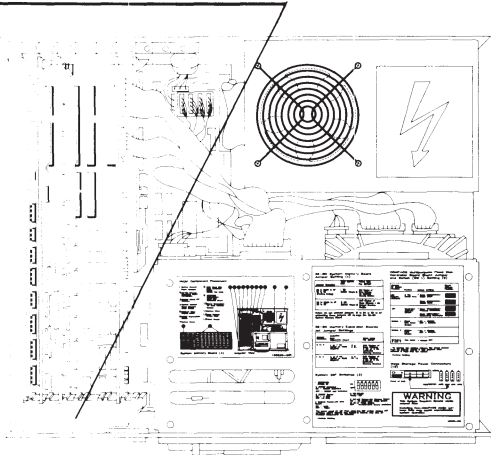

Figure 7-30. Location of the Speaker/Board Guide Assembly.
2. Locate the speaker/board guide assembly (Figure 7-30).